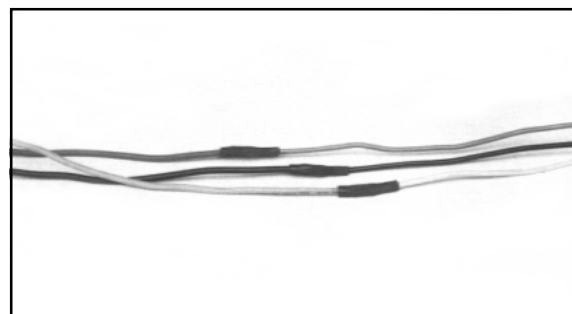

Figure 4
8. Apply heat to shrink tubing, working from the center outward, to avoid air pockets. Shrink tubing to connector one at a time. A heat gun or propane torch with diffuser tip is recommended for shrinking the tubing. Sealing is complete when the shrink tube conforms to the shape of the connector and wire, and sealant flows from each end of the shrink tube. (See Figure 4)